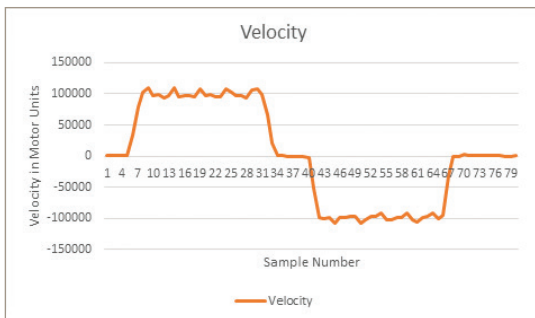

Figure 2: Velocity over time while carriage travels length of actuator
- 3. Use SmartMotor™ interface tools to isolate the problem:** The system was reassembled and, using the Chart View tool in SMI, plots of real time data were produced. The graphs provided helpful clues needed to locate the source of the problem, see Figures 2 - 4.